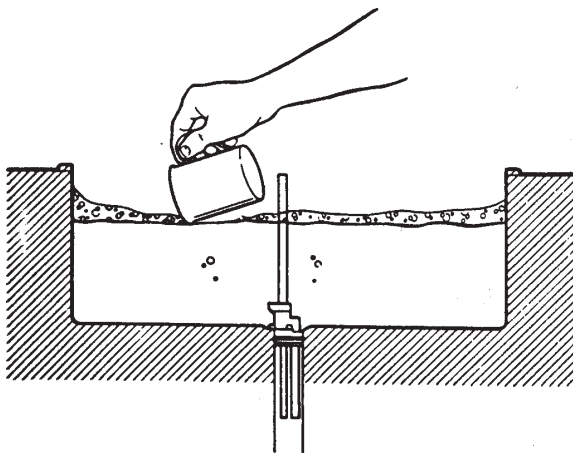

Figure 31. Skimming Hopper
2. Using a sanitized one-pint aluminum overrun container, skim the mix in the hopper to remove any foam buildup (Fig. 31).